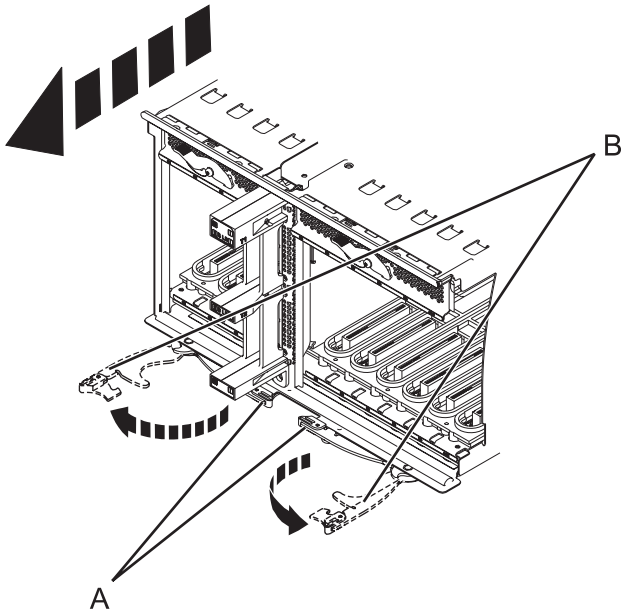

Figure 71. Removing the I/O system board
12. Squeeze the release latches (**A**) and pull the levers (**B**) out away from the system, as shown in Figure 71.